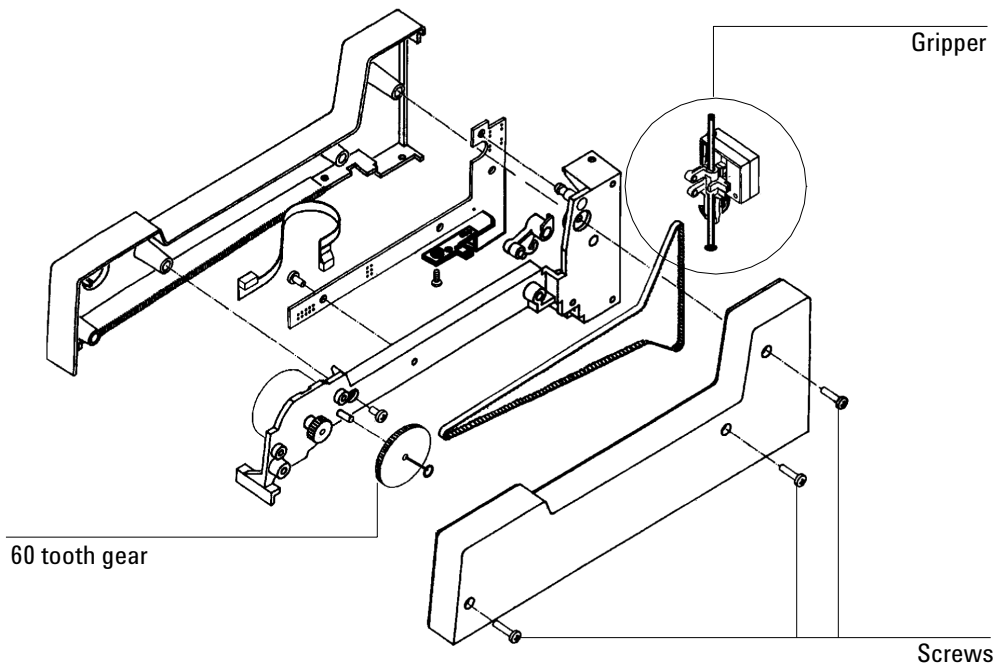

Figure 2. Exploded view of the tray arm (do not disassemble)
- Remove the three screws that hold the sides of the arm with a No. 1 point Pozidriv (see Figure 2).
5. Loosen the screw that holds the aluminum arm core to the left arm half with a No. 1 point Pozidriv. Access this screw through the hole in the 60 tooth gear (see Figure 2).